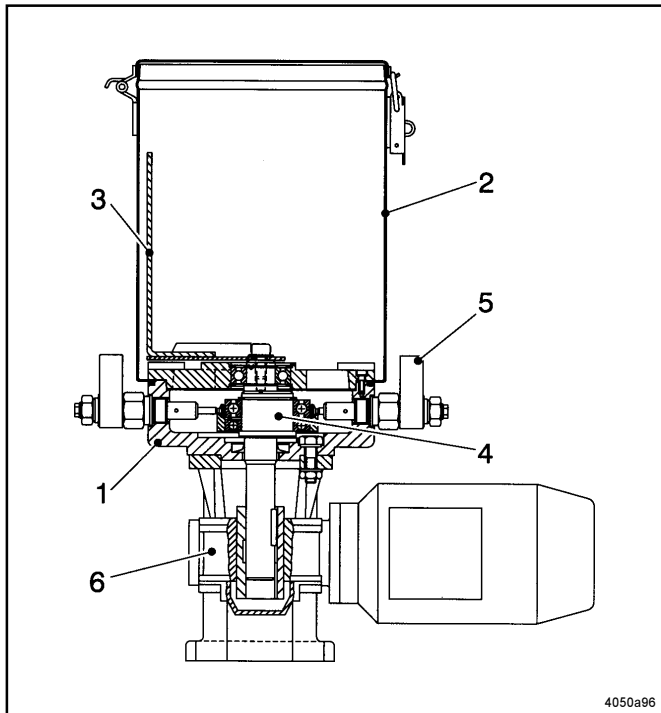

Bild 2: Sectional drawing of pump model 215
- The pump essentially consists of the components shown in Fig. 2.
- The worm gear (6, Fig. 2) reduces the speed of the drive motor down to the speed of the eccentric shaft.
- The eccentric shaft (4) causes the piston lodged in the pump element (5) to move to and fro, with the result that the lubricant is sucked and dispensed to the outlet via a check valve.
- The eccentric shaft simultaneously drives the stirring paddle (3). The rotating movement of the stirring paddle makes sure that the lubricant is homogenized and directed into the suction boreholes of the pump element.